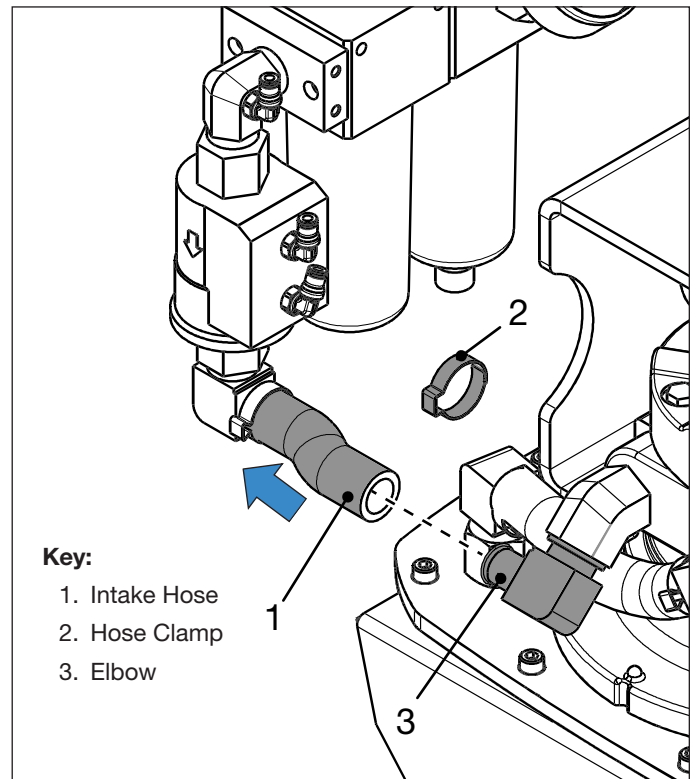

Figure 15: Air Motor Intake Hose
6. Remove hose clamp and intake hose from elbow at air motor intake port. See Figure 15.
20. Position the filter/regulator/lubricator assembly inside the roll cage. Attach the air motor intake hose to the elbow at the air motor intake port. Secure with new hose clamp. See Figure 15.